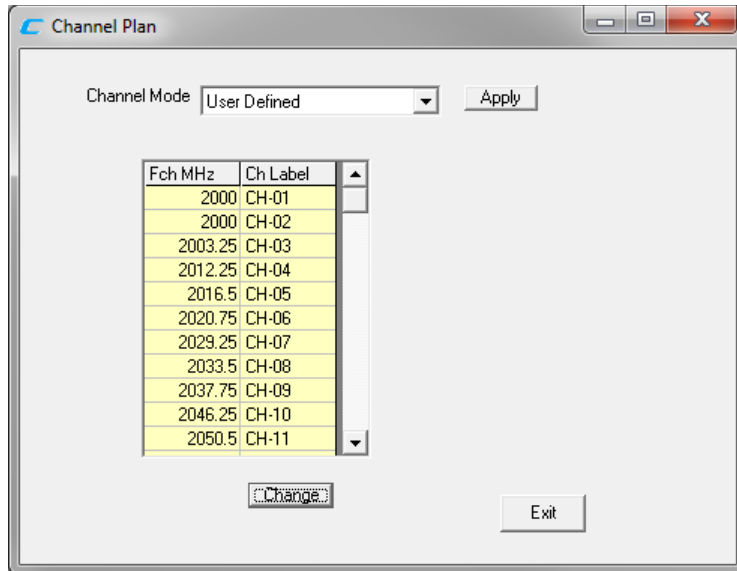

Figure 24 – User Defined Channel Mode Screen
- User Defined (Figure 24) – this channel plan is defaulted with 30 pre-defined channels initially but any channel and channel label can be modified. Select the ‘User Defined’ channel mode using the pull down box and then click on the ‘Apply’ button. Then click on the ‘Change’ button. Enter the frequency in the “Center Freq (MHz)” text box and the label in the “Channel Label” text box as shown. Then click on the ‘Accept’ button to save or ‘Cancel’ to cancel the operation.